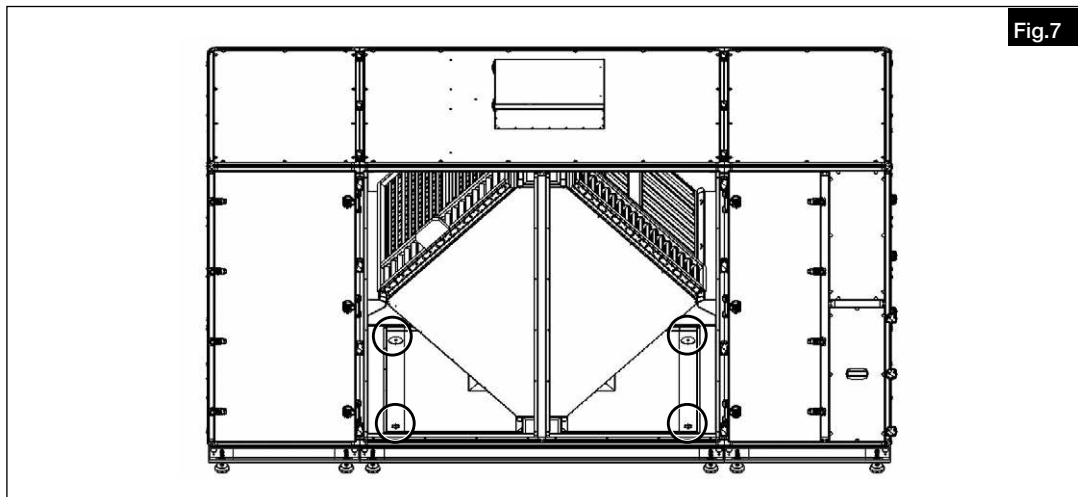

Fig.7
– Ensure that the unused condensation outlets are closed (see Fig.7).